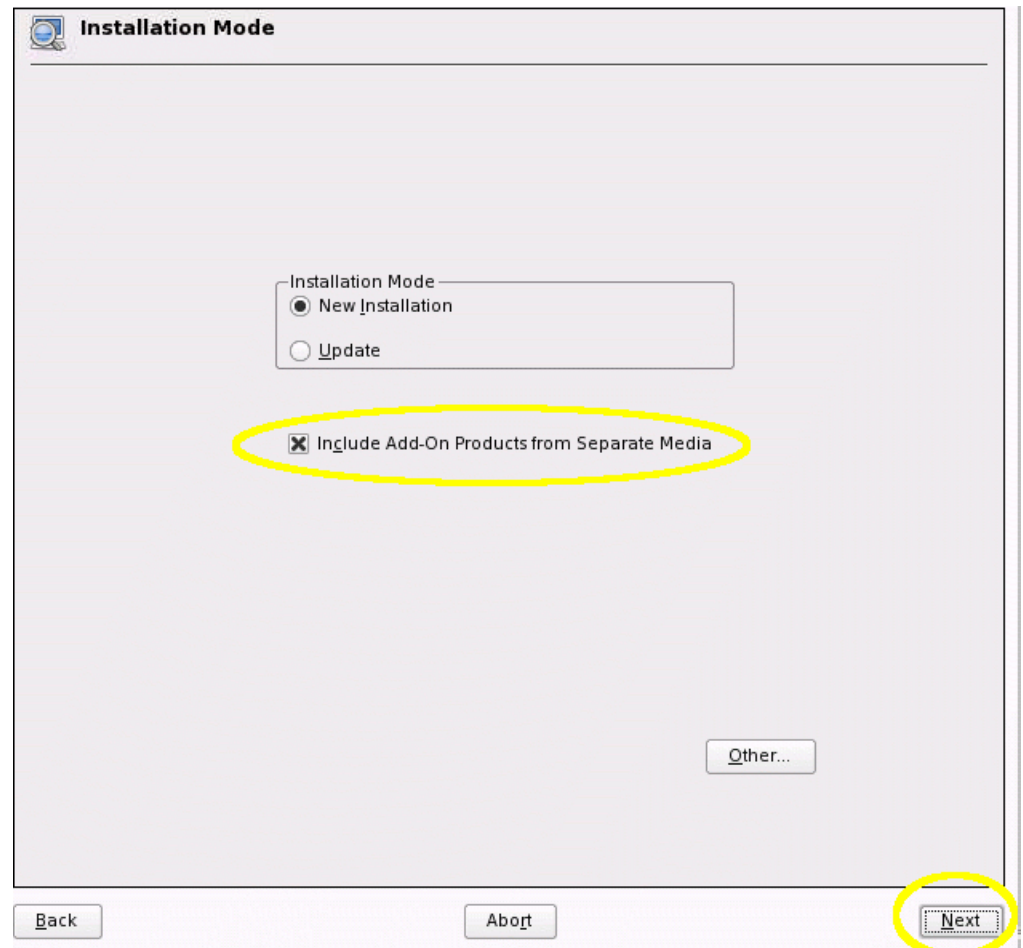

Figure 2-6 Installation Mode Window
9. From the **Installation Mode** window as shown in Figure 2-6, click on the **New Installation button** and the **Include Add-On Products from Separate Media** button, since you will also be adding SGI ProPack 5 SP3 software and then click on the **Next** button to continue.